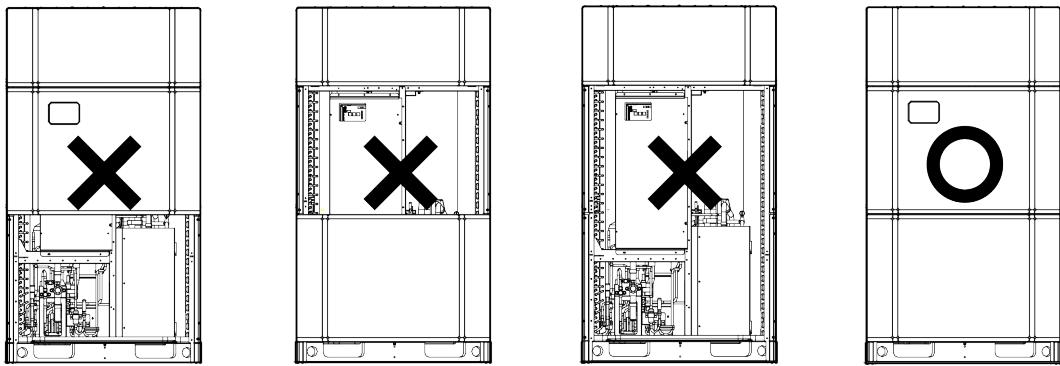

Fig.4.2.2
(2) When starting up the debugging, the system automatically selects the operating mode according to the current ambient temperature.
(3) When debugging, the front panel of the outdoor unit must be completely closed, otherwise it will affect the accuracy of debugging (as shown in the Fig.4.2.2 as below).